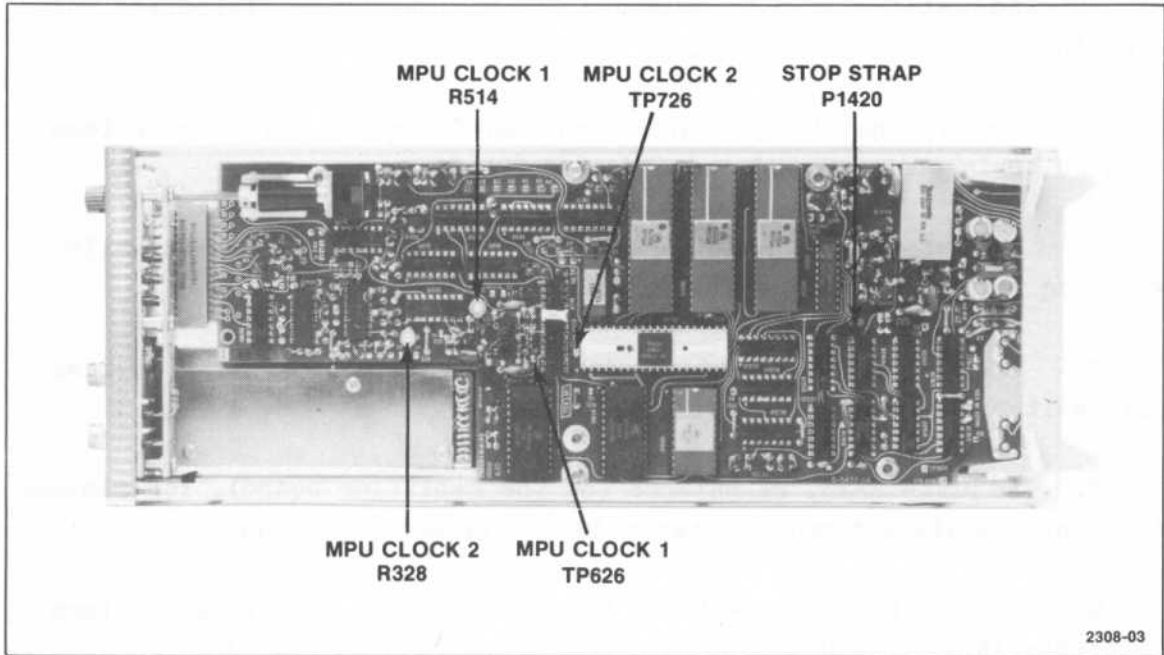

Fig. 6-1a. Test Point and Adjustment Locations Programming Logic Board
The following procedure is arranged so that the 7A16P can be calibrated with the least interaction of adjustments and re-connection of equipment. The control settings and test equipment set-up throughout the procedure continue from the preceding steps unless otherwise noted. Refer to Fig. 6-1a and b for the location of adjustments. The test set-up is summarized at the beginning of each section of the calibration procedure. When performing the complete procedure, this summary provides a check of the instrument settings. Any part of the calibration procedure can be performed by setting up the equipment as shown in the tables.
1. Remove the STOP strap, P1420, on the Programming Logic Board (see Fig. 6-1a).